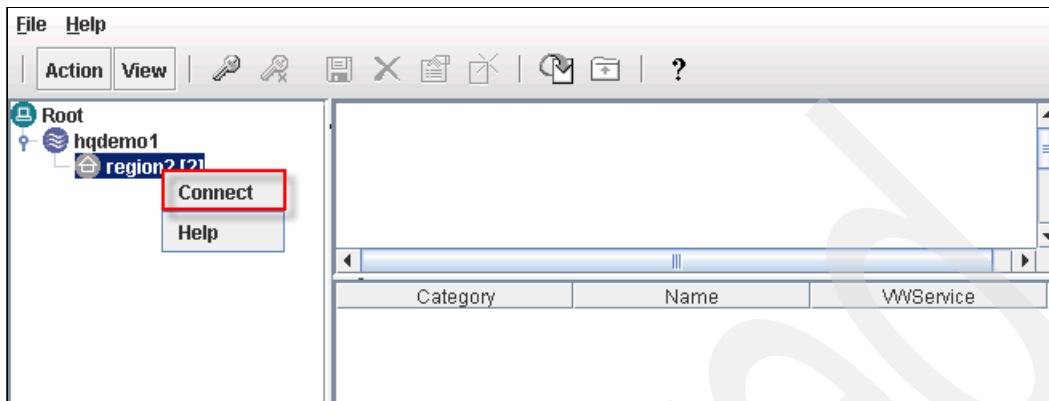

Figure 7-31 Connecting to the region
4. In the Process Configuration Console (Figure 7-31), right-click the **region** name and select **Connect**. Isolated region is the name of the BPM database.